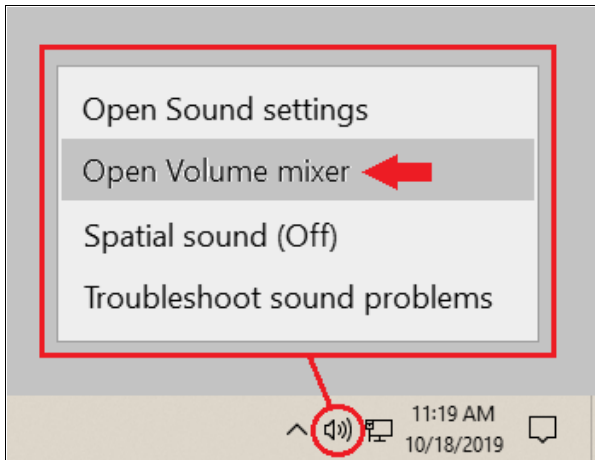

Figure 7 - Speaker icon
- As shown below in Figure 7, locate the speaker icon on the Windows task bar (lower right-hand corner of the Windows desktop).